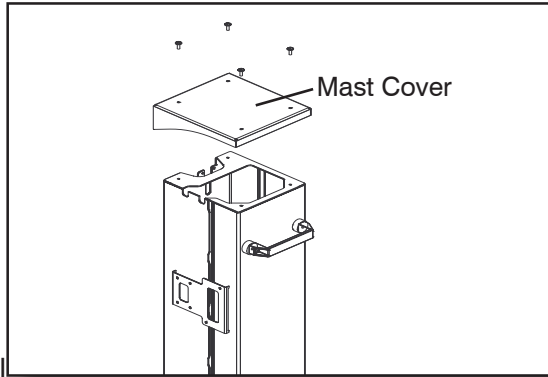

Figure 5-42. Mast Cover Installation
11. Install the mast cover. See Figure 5-42.